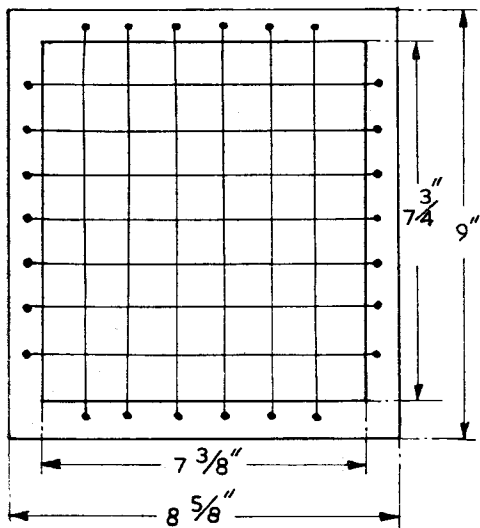

Fig. 6. Front of single footlight, showing crosswire assembly. (For holding gelines)
**N**OW for the front of the "float." Take the lid of the tin and cut as in Fig. 6, allowing  $\frac{1}{8}$  in. in all round to double back. Drill holes as shown and fit cross-wires. A 1 lb. reel of 16-s.w.g. bare tinned copper wire should be sufficient for twelve boxes. Before cutting to lengths, put free end of wire in vice, unwind a couple of feet and pull on reel. This not only stretches the wire considerably, but stiffens it also. Then cut the wire to length required, allow for turning over inside holes and stretch taut between opposite holes,